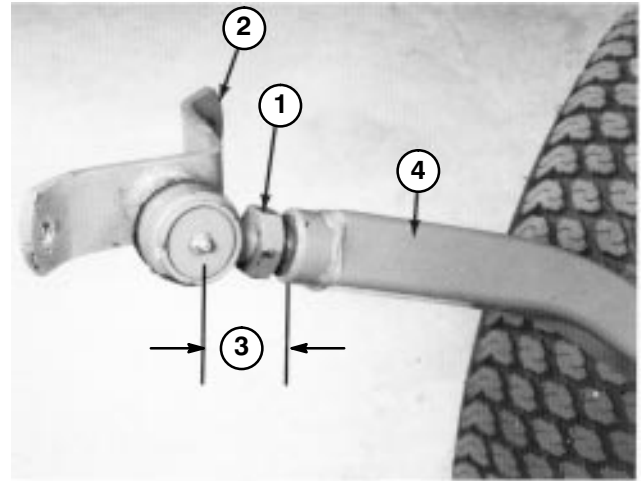

Figure 15
2. Screw ball joint into right hand push arm until center of ball joint is 2-3/8 inches (60 mm) away from front of push arm (Fig.15). Do not tighten jam nut.